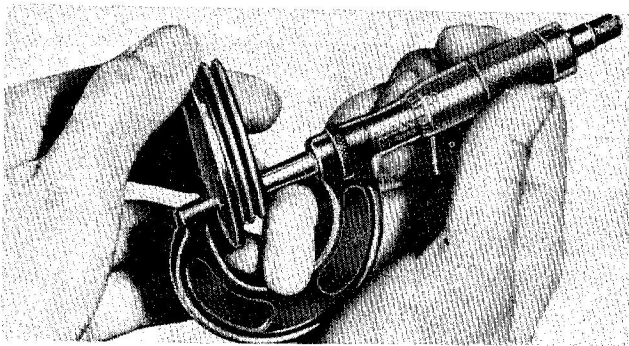

Figure 30 — Set Expansion Unit to Depth
(5) Balance the card by placing it in a balancing stand. (See figure 30.) Be sure that the stand is not located near any disturbing magnetic field.
(8) Set expansion unit to proper length (.450 to .470) as shown in figure 30. Place on rear of case and pull down tight with the four screws.
(9) In like manner assemble the corprene bezel gasket, with shellac on both sides, and allow it to become tacky before placing it on the lens.
(10) Clean the lens of all finger marks and install.
(11) Place the front spacer gasket on lens so that it does not overlap the case at any point.
(12) Place the bezel on the spacer gasket and pull down tight with the four screws. If the screws seem to pull down too easily install an additional spacer gasket.